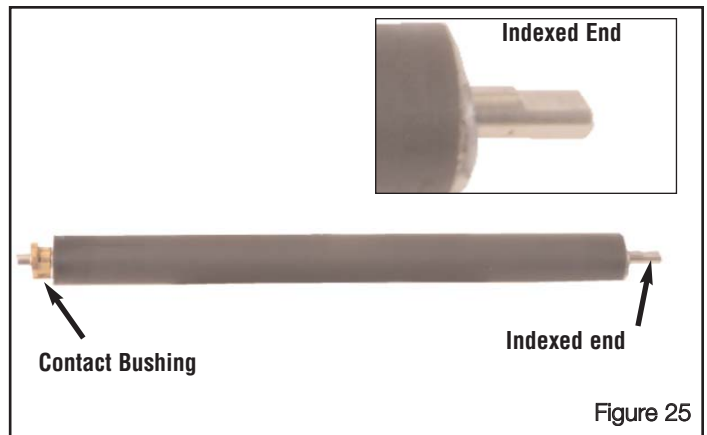

Figure 25
- b. Attach the Developer Roller Contact Bushing to the non-indexed end of the Developer Roller. See Figure 25.